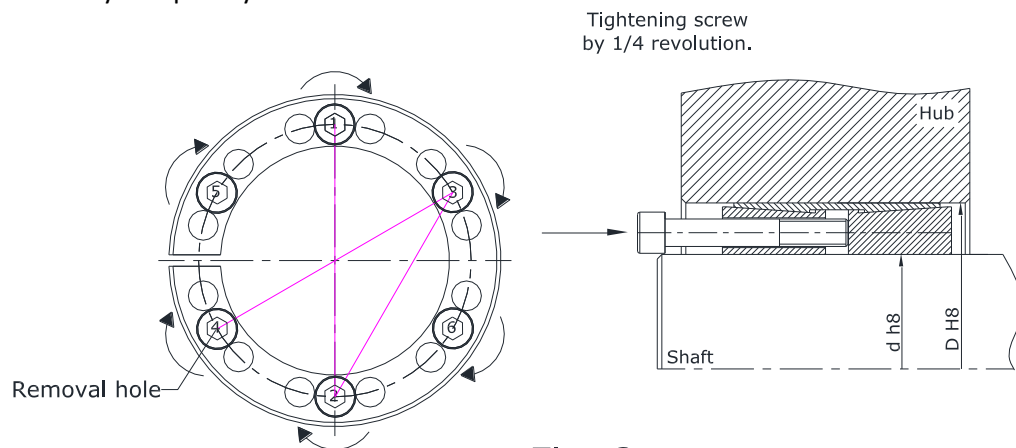

Fig. 3
- N7450 is not self releasing. So remove all screw and transfer 6 screws into removal (As mention in Fig. 3) which have been provided on inner ring. For first pass 1/4 revolution tightening of screws into removal holes which lead to jacking of front nut and pressing on rear nut. With the help of this procedure, releasing of front nut and rear nut take place. Continue this procedure for several passes for removal of locking assembly completely.